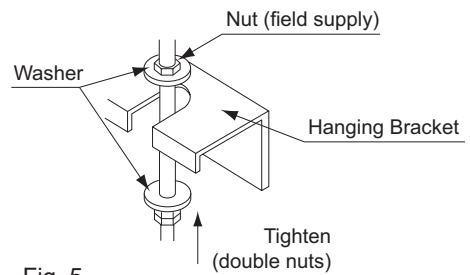

Fig. 5
- (2) Carefully lift the unit so that the hanging brackets can locate on to the suspension bolts. (Fig. 5) Be sure to clamp the bracket securely by using a nut and washer (field supplied) from the upper and lower sides of the hanging bracket. Ensure that the suspension bolts are firmly secured. (No up or down movement) (Fig. 5)